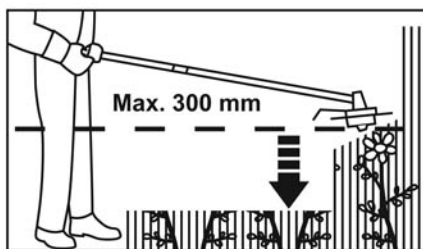

Fig. 24
- > Never lift the cutting head above hip height (Fig. 24); the higher the cutting head is, the greater the risk will be of flinging objects.